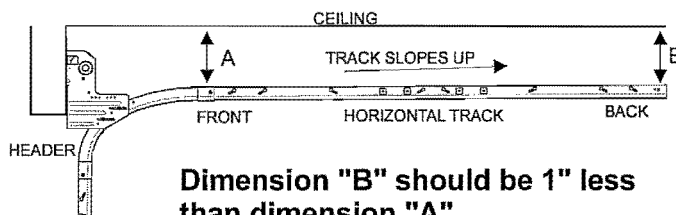

FIGURE 10
- **NOTE: Rear of tracks should be elevated 1" higher than front. (See Figure 10)**